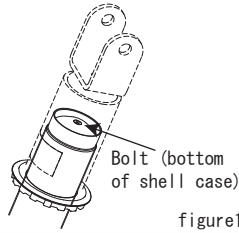

figure1
- DO NOT remove small bolt on bottom of shell case (upright damper type, see figure1), and/or small bolt located at insert top (inverted type, see figure2) to prevent gas leakage.